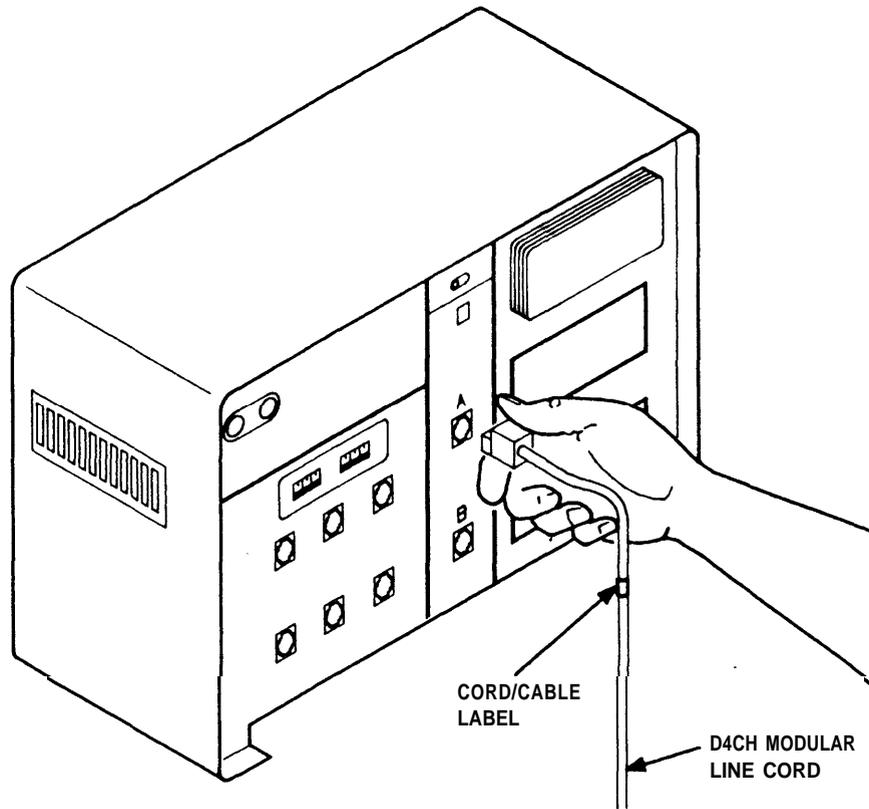

Figure 7
- ❑ 7. Plug the cord into the “Tel. Co. Lines” jack on the control unit that has the same letter (A or B) as the label. (See Figure 7.)